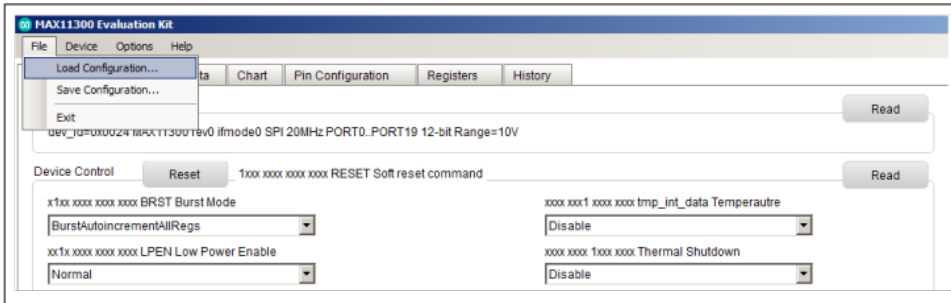

Figure 7. Loading configuration registers.
10. In the MAX11300EVKIT software main menu, select File > Load Configuration to load the configuration registers file “MAX11300Register RTD-4–20mA.csv” as shown in **Figure 7**.